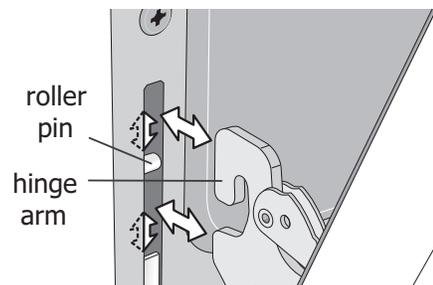
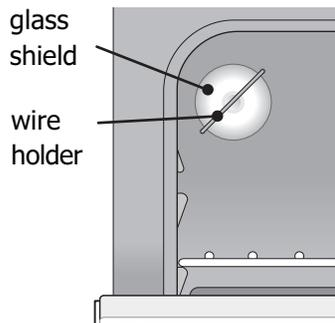

Figure 35: Replacement and location of hinge arm and roller pin
Figure 36: Oven light protected by glass shield
3. Firmly grasp both sides of oven door along the door sides. Do not use the oven door handle (See Figure 35).
4. Close the door to approximately 10 degrees from the door frame (See Figure 35).
5. Lift the oven door hinge arms over the roller pins located on each side of the oven frame (See Figure 36).
1. Firmly grasp both sides of oven door along the door sides. Do not use the oven door handle (See Figure 35).
2. Holding the oven door at the same angle as the removal position, seat the hook of the hinge arm over the roller pins located on each side of the oven door frame (See Figure 35 and Figure 36). The hook of the hinge arms must be fully seated onto the roller pins.